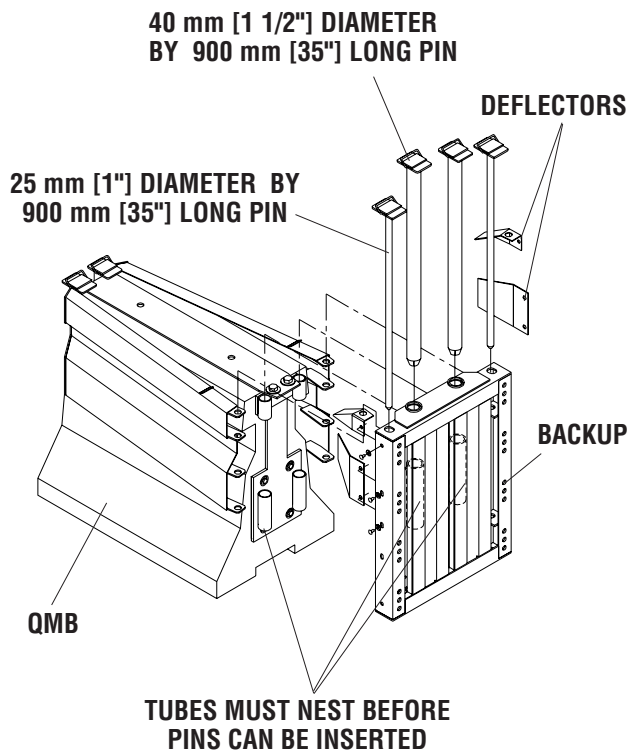
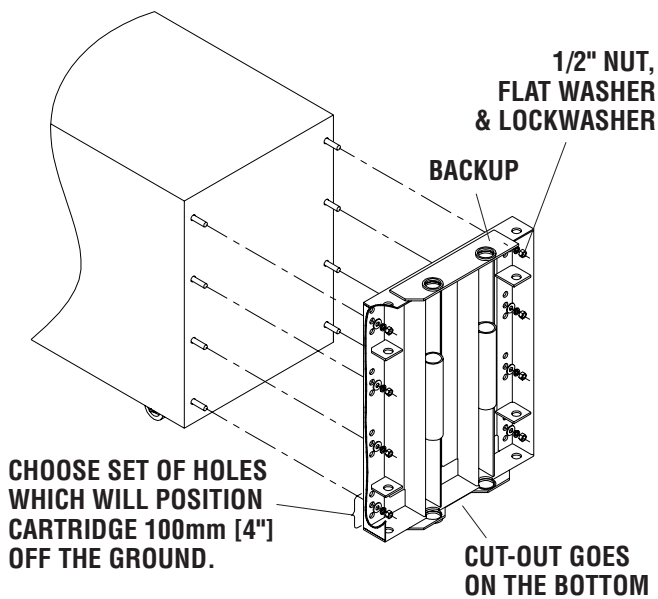

Figure 13
Figure 17
Step 5: Attach Backup to Support Frame and Transition Panels (See Figures 13 & 14)
Step 8: Attach Backup to Cartridge. (See Figure 17)
Roll the Cartridge with the attached Backup up against the Support Frame until the tubes on the Backup nest with the tubes on the Support Frame. It may be necessary to lift the rear end of the Cartridge so that the tubes can nest. Re-insert the two large 40mm [1 1/2"] diameter by 900 mm [35"] long pins into the two sets of nested tubes to hold the Cartridge into place. To get the pins to fall into place, it may be necessary to align the tubes on the Backup and Support Frame. This can be easily done by carefully lifting the front end of the Euro-NEAT Cartridge with a pry bar. (Be careful not to damage the Cartridge when doing so. Protect the Cartridge with a piece of scrap lumber.) Next, re-insert the 25 mm [1"] diameter by 900mm [35"] long pins into the holes on the outside of the Backup to fix the Transition Panels into place. See Fig. 17. (Ref. Fig. 13)